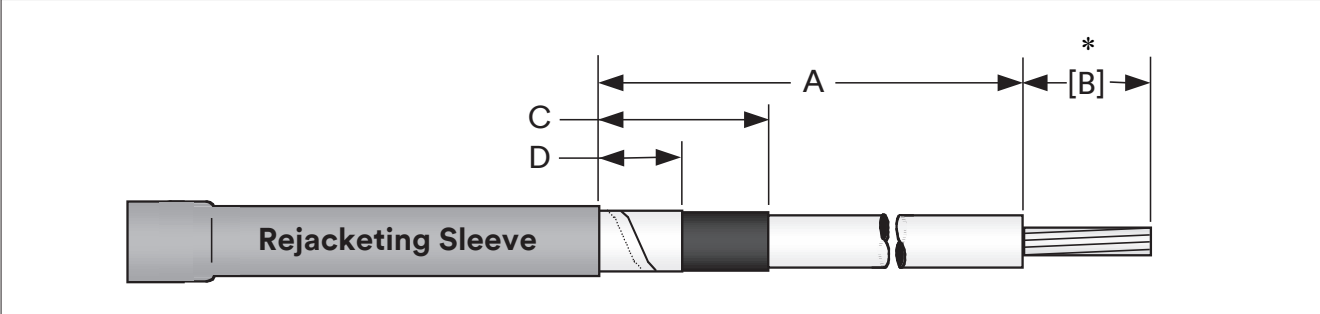

Figure 18
6.1 Prepare cable phase legs according to dimensions shown (Figure 18).